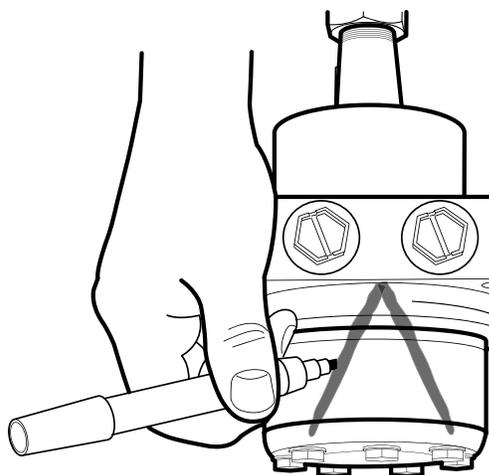

Figure 3, Identification Mark
1. To ensure correct alignment and location during reassembly of motor parts, provide a "V" shaped identification mark. See figure 3.